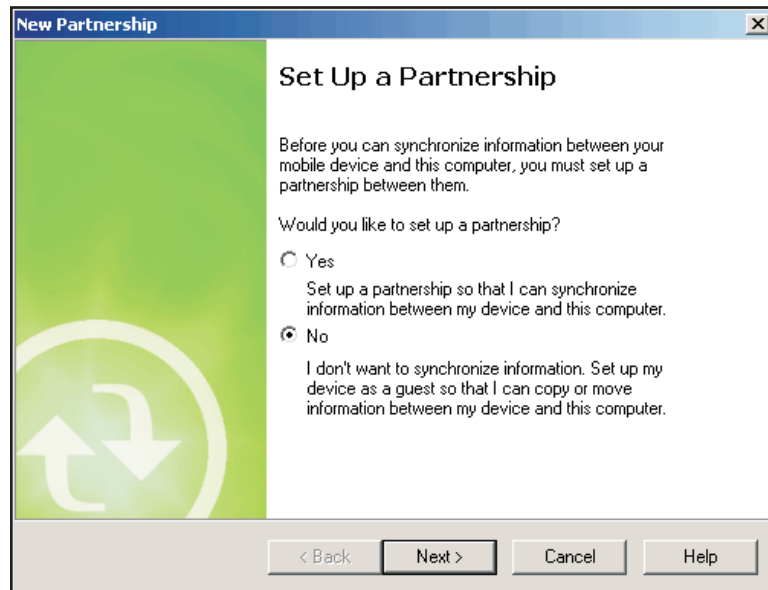

Figure 84 Set Up a Partnership
9. If the “Set Up a Partnership” screen (Figure 84) doesn't appear automatically you will need to start the ActiveSync program by selecting Start | Programs | Microsoft ActiveSync. Select No, then Next.